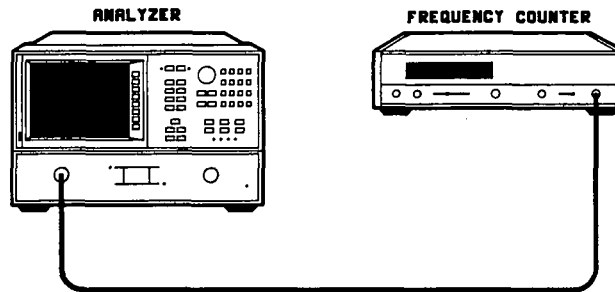

Figure 6. Source Pretune Correction Constants Setup.
1. Check A9 CC jumper position. Connect the equipment as shown in Figure 6 and then press **[PRESET] [SYSTEM] [SERVICE MENU] [TESTS] [ADJUSTMENT TESTS]**. When the CRT displays "Pretune Adj", press **[EXECUTE TEST]**. Press **[YES]** at the query to alter the correction constants.
1. Connect port 1 of the analyzer to the frequency counter input (see Figure 6). Press **[PRESET] [MENU] [CW FREQ] [1] [3] [.] [5] [G/n]**.